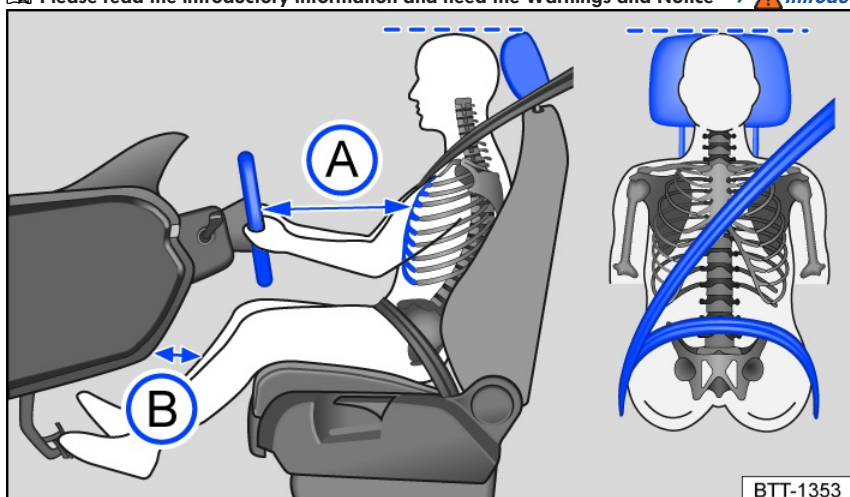

Fig. 21 General example: correct distance between the driver and steering wheel, correct safety belt routing, and correct head restraint adjustment.
- Adjust the head restraint so that the upper edge of the head restraint is in line with the upper portion of the head as much as possible, but not lower than eye level. Position the back of the head as close as possible to the head restraint *fig. 21*.
- Adjust the steering wheel so that the distance between the steering wheel and your chest is at least 25 cm (around 10 inches) *fig. 21* and you can hold the steering wheel firmly at the sides with both hands and your elbows slightly bent.
- Adjust the forward/back position of the driver seat so that you can press the pedals while your legs are slightly bent and there is at least 10 cm (around 4 inches) of space between the instrument panel and your knees fig. 21.